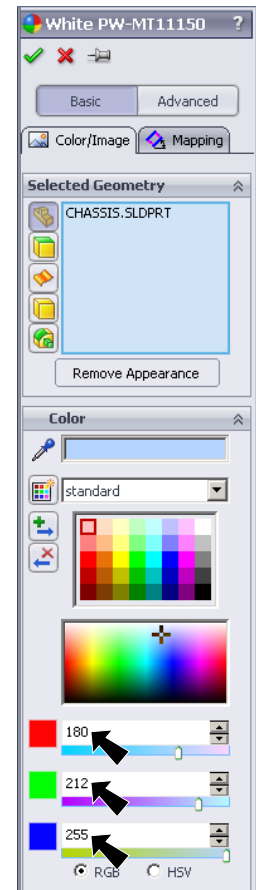

Fig. 45
Step 2. In the Appearances Property Manager, Fig. 45